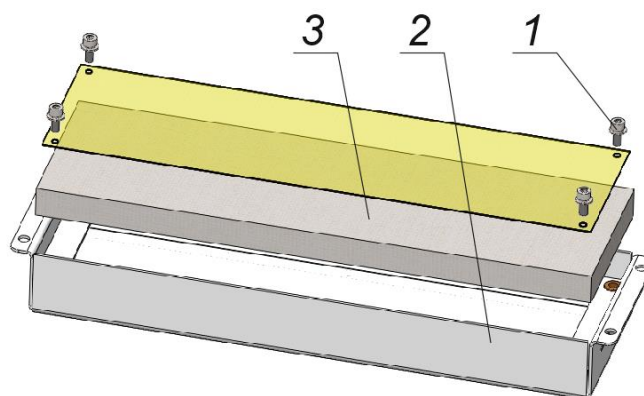

Figure 7.6. Filter case
1. Remove screws 1 (Fig. 7.6).
2. Remove cover 2 (Fig. 7.6).
3. Remove filter element 3 (Fig. 7.6).